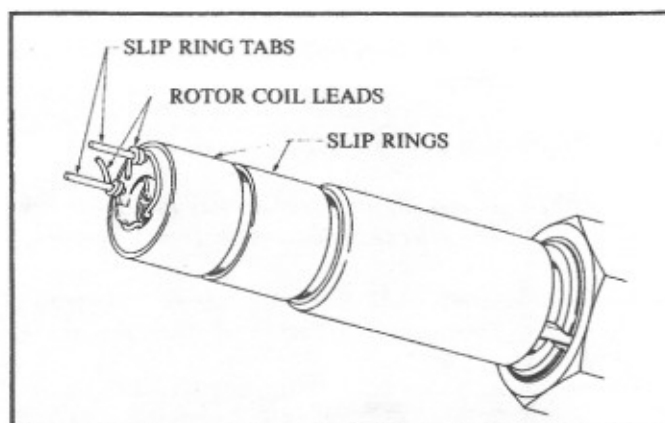

Figure 26
2.14 Wind rotor coil leads tightly around slip ring tabs approximately 5-6 turns. Fig. 26.